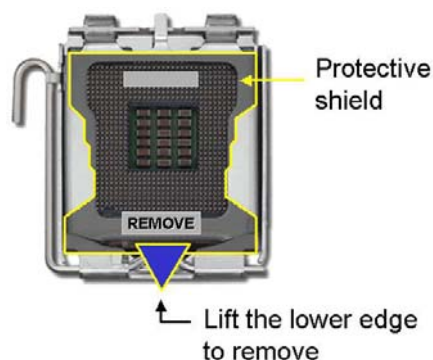

Figure 4-2: Remove the CPU Socket Protective Shield
Step 1: Remove the protective cover. Remove the black protective cover by prying it off the load plate. To remove the protective cover, locate the “**REMOVE**” sign and use the fingernail to pry the protective cover off. (See Figure 4-2)